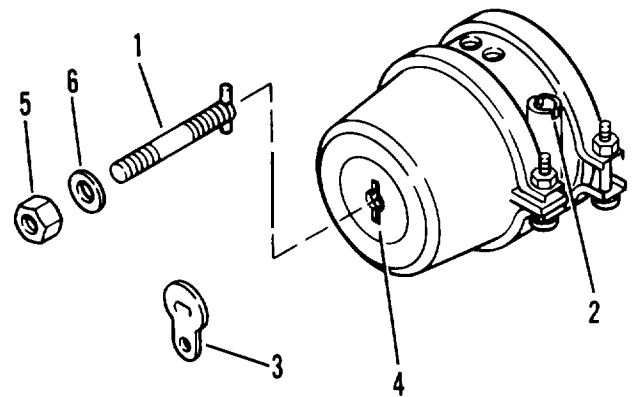

Figure 3-7. Caging failsafe
b. Remove plug (3, figure 3-7) from air brake chamber.
c. Remove nut (5) and washer (6). Remove release tool (1) from mounting hole (2) in spring brake.
d. Insert release tool (1) through opening (4) in brake chamber. Turn release tool (1) 1/4 turn clockwise to lock in manual release position.
e. Install washer (6) and nut (5) on release tool (1). Tighten until 2 1/2 to 2 3/4 inches of release tool (1) is exposed.